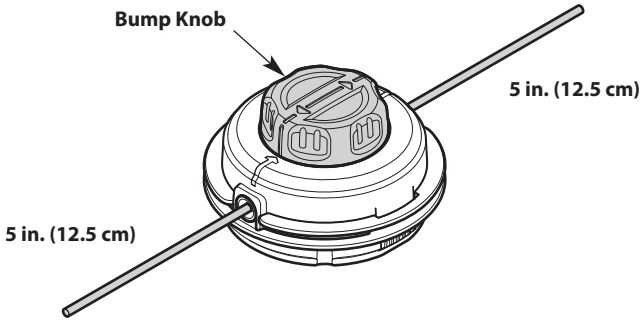

Fig. 24
5. Turn the bump knob to wind the line until about 5 inches (12.5 cm) protrude from each side of the cutting head (Fig. 24).